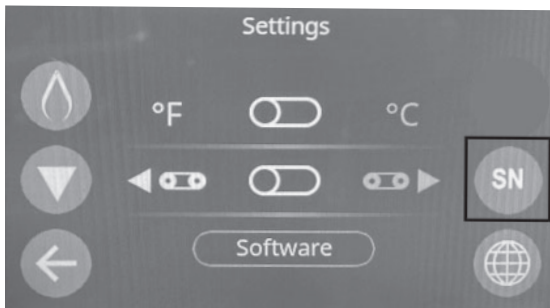

Figure 27
- 6. Serial Number – From the main settings screen, press the “SN” button highlighted below in (Figure 27) to change the serial number.
2. Turn OFF the On/Off switch. (Figure 27)